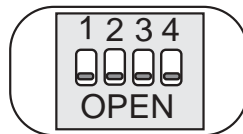

Figure 5-3. SW1 with All Switches Open
4. Open all switches to place the unit in normal weighing mode (Figure 5-3).